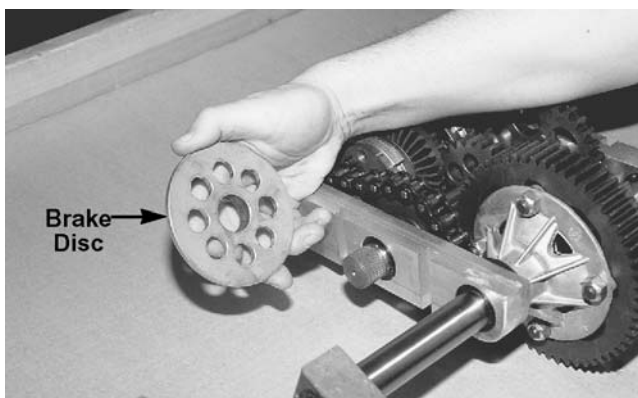

Figure 5-75.
16. Remove the brake disc and inspect for any damage. See Figure 5-75.